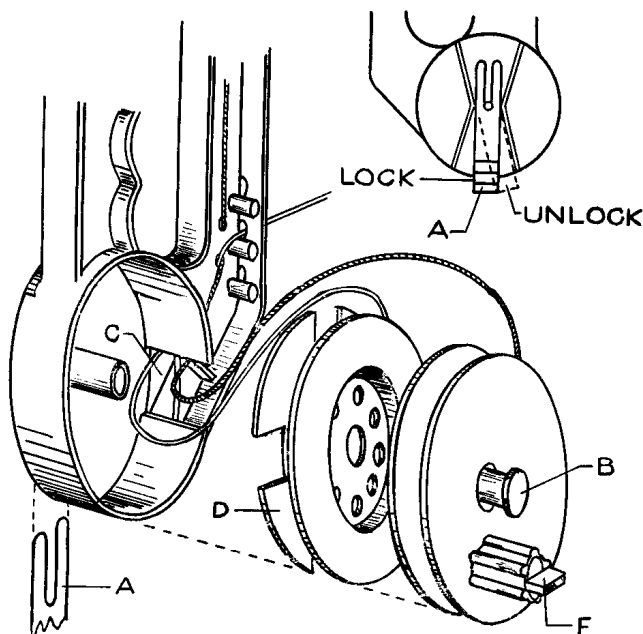
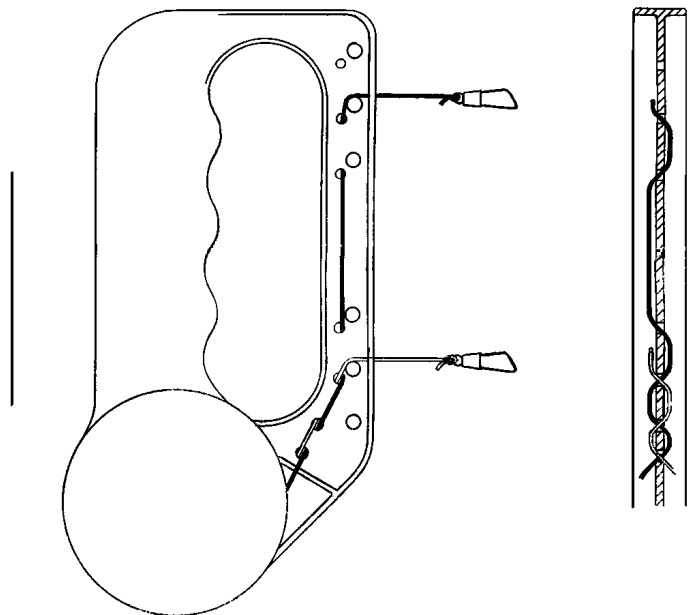

FIG. 3
FIG. 4
1. First lift Spring A, figure 3, and slide it out. This lets pins B come out and also the two spools. Unroll the nylon line from spool D, Figure 3. There is enough line for two 35 foot control lines. Double the line back, and cut it in two. Put the end of the line through the tiny hole in the reel, knot it so it will not pull out and wind it on the spool, one line on each spool. Roll it on so the line does not become twisted. Be sure to wind the lines on in the correct direction.
Replace the spool D with the notched side toward the back of the case and with the end of the line going out through hole C, Figure 3. Re-assemble the other reel, pin, and spring. Lace the lines through the holes in the case to the desired flying position and tie on the snaps as illustrated in Figure 4.
2. Knob F, Figure 3, when turned to the raised position disengages the reels from each other so the length of the lines can be adjusted individually for the best control position of the handle. Always turn the knob to the raised position to unreel the lines. This will prevent the lines from becoming tangled in the case. To unreel the lines raise spring A, Figure